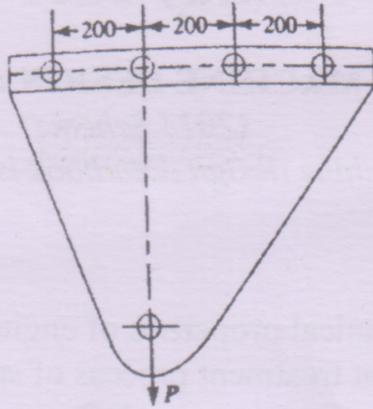

Figure 4: Riveted joint
- VI. The four equal rivets of 20 mm diameter is riveted as shown in the fig. 4. (20)